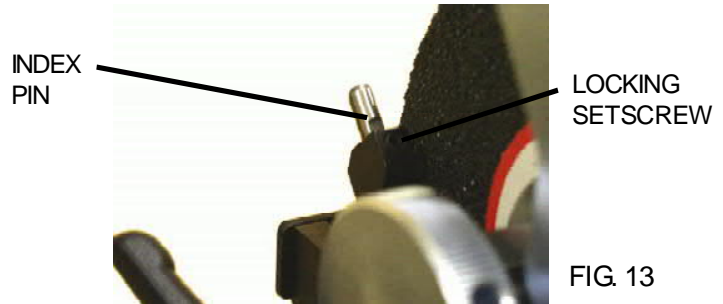

FIG. 13
1. The position of the index pin is can be adjusted by loosening the its locking setscrew. The height of the finger may need to be raised to catch the next blade on small diameter reels or it may need to be lowered to avoid interference with the reel spider. See FIG. 13.